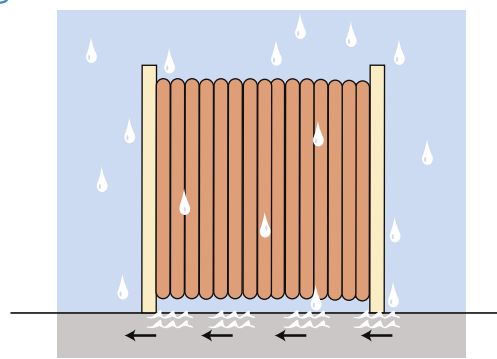

Fig. 1
- ✔ Select a site for storage that is level and dry, preferably indoors with a concrete surface, with no risk of falling objects, chemical spills (oil, grease, etc.) open flames and excessive heat (see fig. 1).
- ✔ If concrete hard storage is not available, select a well-drained surface that will prevent the reel flanges sinking into it (see fig. 1).